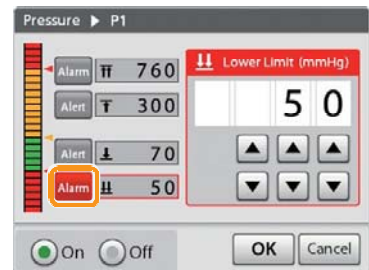

Figure 3-12
6. Tap [Alarm] of the lower limit. (Figure 3-12)